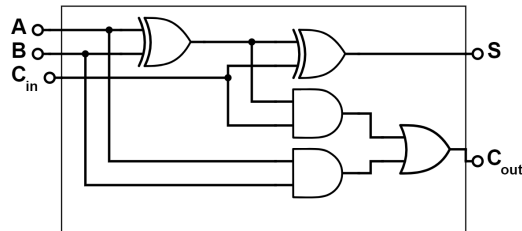

Figure 1: Full Adder Circuit
- 1.1. Figure 1 shows the implementation of a Full Adder. Write out the truth table for a Full Adder.